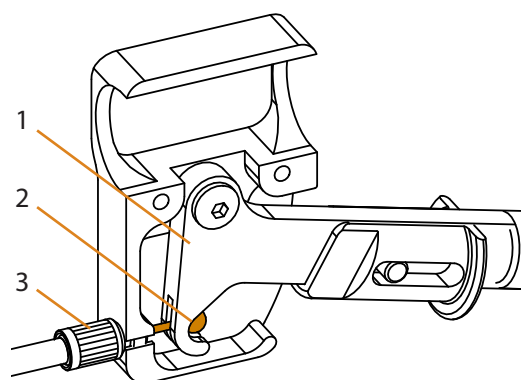

Figure 22. Brake lever and cable
- The brake lever and cable are assembled in the outer half of the control, see Figure 22 (RH side shown).
4. Push the nipple (2) forward. The wire can then be removed from the slot in the lever.
5. Unscrew the end sleeve (3) fully.
7. Screw in the end sleeve (3) fully.